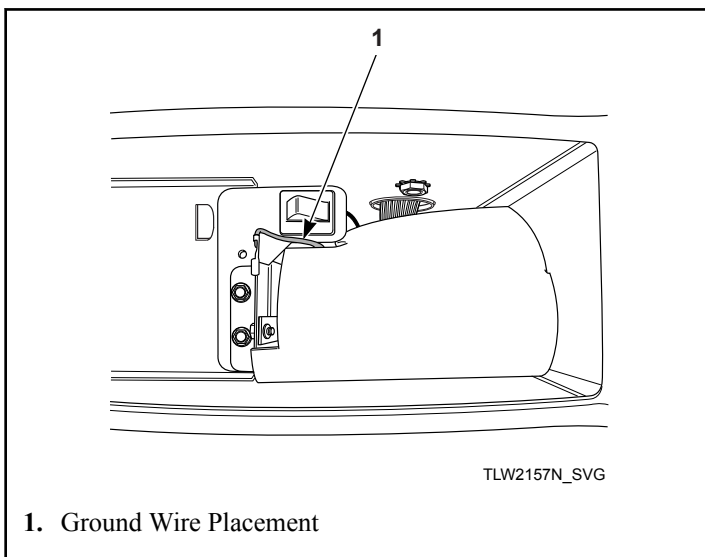

Figure 17
7. Before installing coin slide and extension, make sure ground wire is tucked under control shield to provide clearance for coin slide. Refer to *Figure 17*.